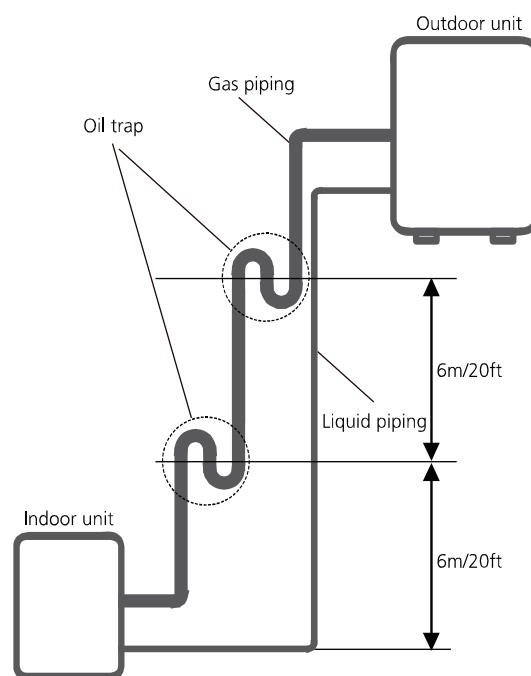

Fig. 7.4
-It is recommended that vertical suction risers not be upsized. Proper oil return to the compressor should be maintained with suction gas velocity. If velocities drop below 7.62m/s (1500fpm (feet per minute)), oil return will be decreased. An oil trap should be installed every 6m(20ft) of vertical suction line riser. (See Fig. 7.4)